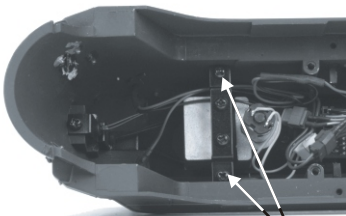

Figure 16
5. Remove the two screws securing the smoke unit inside the shell as seen in Fig 16.
6. With the board free of the mounting screws, slide the assembly out of the boiler as seen in Fig. 16.